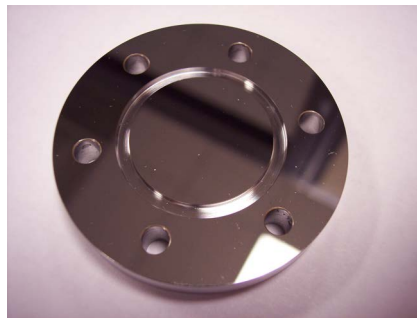

Figure B-3 *Stainless steel mirror — mirror side up*
7. Obtain the new stainless steel mirror. Refer to Figure B-3.